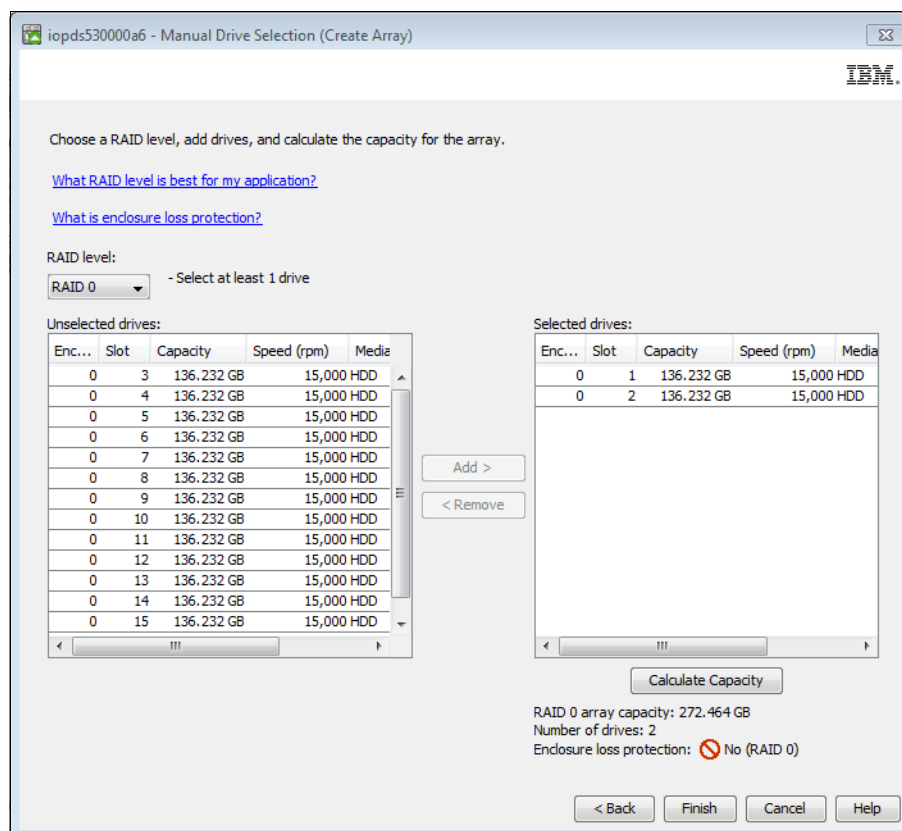

Figure 2-51 Selection of the RAID and drives
- Next we select the RAID level, pick the drive type, and the number of drives that will be used for the SAN Boot LUN. For this installation and best practice for SAN Boot, we are going to use RAID 0, and we select the first two drives, as we only have one enclosure in our setup. After the drives are added, click the **Calculate Capacity** button and then click **Finish** as shown in Figure 2-51.